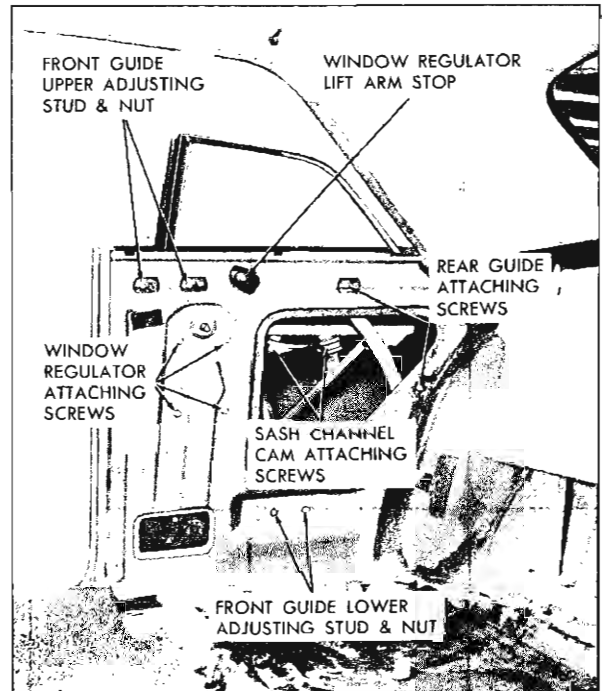

Fig. 4-7 Rear Quarter Hardware 47-57 Styles
2. Remove rear quarter window rear guide attaching screws (Fig. 4-7). Disengage rear guide from roller on window lower sash channel and remove guide.
3. With the rear quarter window in the half-down position, remove the lower sash channel cam attaching screws (Fig. 4-7). Detach cam from roller on regulator arm and remove cam.
4. Remove rear quarter window front guide adjusting stud nuts (Fig. 4-7).
2. To adjust the window fore or aft, loosen the front and rear guide attaching stud nuts (Fig. 4-7). Position the window and guides fore or aft as required; then tighten the attaching stud nuts.
3. To adjust the rear quarter window in or out, loosen the front guide upper attaching stud nuts (Fig. 4-7). Adjust the studs in or out as required; then tighten the stud nuts.
4. To adjust the top of the rear quarter window in or out, loosen the front guide lower attaching stud nut (Fig. 4-7). Adjust the stud in or out as required then tighten the stud nut.
5. To relieve a binding condition between the channels of the front and rear guide, loosen the front and rear guide adjusting stud nuts (Fig. 4-7). Operate window to full up position and tighten upper stud nuts on the front guide and forward attaching screw on rear guide. Operate window to full down and tighten remaining nuts.
6. To limit the forward and upward travel of the rear quarter window, adjust the regulator lift arm stop as required (Fig. 4-7).
2. Remove rear quarter window regulator attaching screws (Fig. 4-7); then remove regulator assembly through large access hole.
2. With window in "up" position, remove the window front guide upper and lower attaching stud nuts (Fig. 4-7).
2. With the window in the "up" position remove the window rear guide attaching screws (Fig. 4-7). Disengage guide from roller on window lower sash channel and remove guide through access hole.